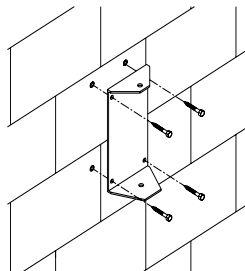

Figure 9 - Mounting Bracket Orientation
1. Layout a rectangular pattern for four (4) bolt anchors that is 5.0" wide to bolt centers at top and bottom and 10.0" high at both sides of bolt centers.
2. Mount the bracket to the wall as shown in Figure 9.